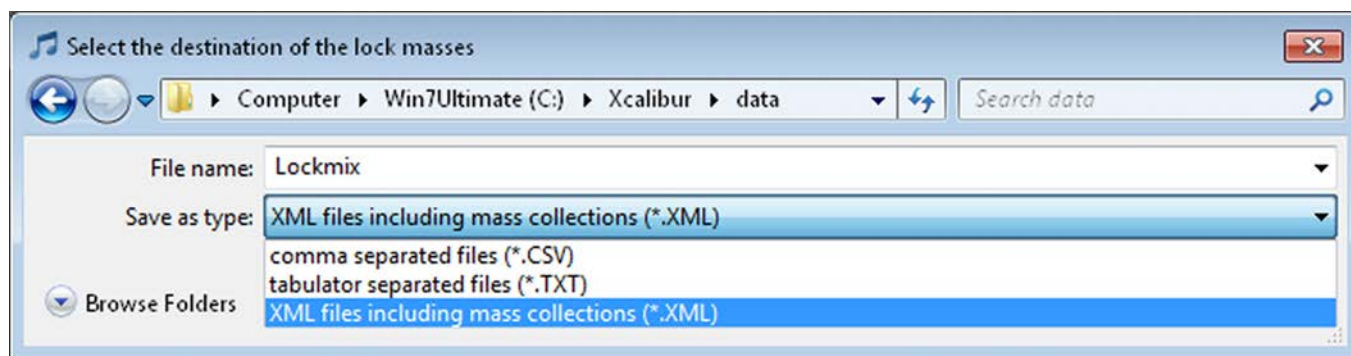

Figure 5-3. Selecting the lock mass export file
- a. Browse to the destination of the export file. See Figure 5-3.